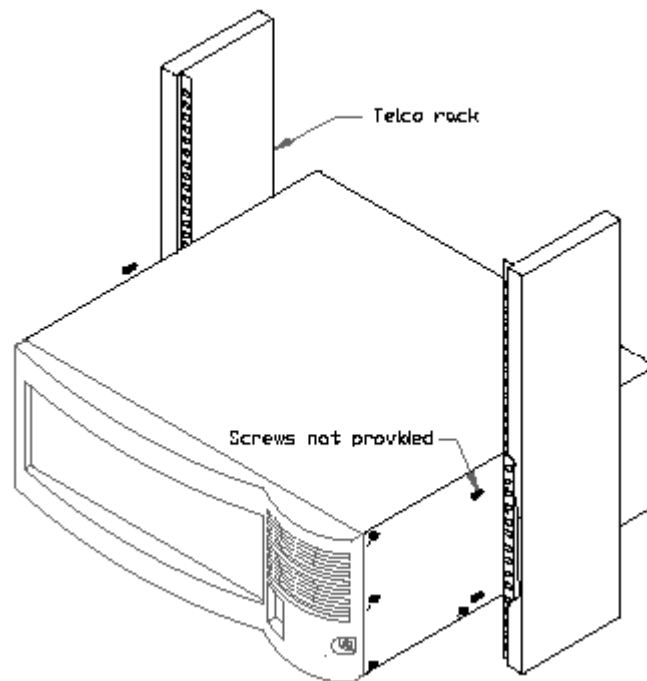

Figure 5.1. Mounting the VSR-2 Chassis in the Telco Rack
4. While supporting the VSR-2 chassis, move the device and the mounting brackets into the desired rack position and use your own screws or clips to fasten the VSR-2 and bracket to the rack as shown in Figure 5.1.